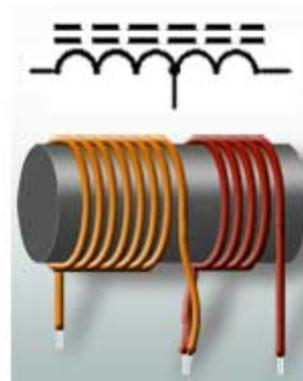

Fig. 2.1.2 Centre Tapped Inductors on a Common Core
Mutual inductance is an additional effective amount of inductance caused by the magnetic field created around one inductor (or one part of a tapped inductor) inducing a current into the other inductor. When both inductors are wound on a common core, as shown in Fig. 2.1.2 the effect of mutual inductance (M) can be considerable and the total inductance is calculated by the formula: